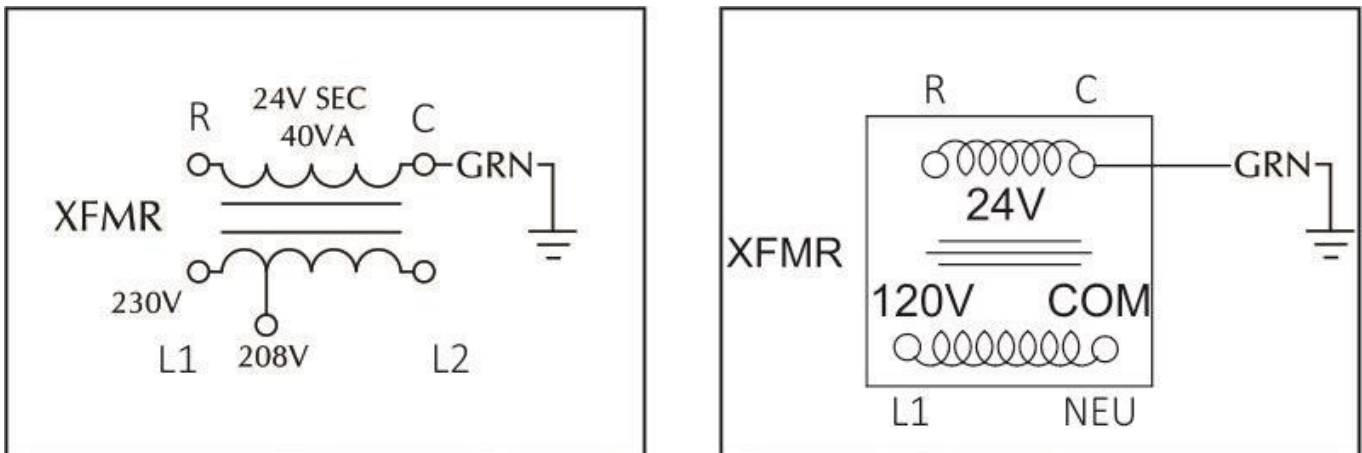

Figure 1 - Control Transformer Schematic
The low voltage power common and the data ground are electrically the same point. They are physically connected on the controls. In all of our equipment, we bond the secondary 24VAC common side of the control transformer to equipment ground. Since the 24VAC common is used for communication ground, it is important that the wiring on both indoor and outdoor control transformers are connected the same. Figure 1 shows images of the control transformers used in both an indoor air handling unit (AHU), an outdoor (OD) variable capacity unit and a residential gas furnace.
Outdoor line voltage input wiring is designated as L1 and L2. Indoor AHU line voltage input wiring is designated as L1 and L2. Indoor gas furnace line voltage input wiring is designated as L1 and NEUTRAL. The 24VAC (C) common wire should always be connected to the same side of the transformer that is bonded to equipment ground. Referencing figure 1, 24VAC (R) hot connection should be connected directly across to the left of the 24VAC “C” connection. Equipment input line voltage L1 should be connected directly below the 24 VAC “R” connection and line voltage L2 (OD and AHU) NEUTRAL (residential furnace) connection should be connected directly below the 24VAC “C” connection.
The outdoor variable capacity equipment control transformer comes factory wired as shown on the left side of figure 1. The matching air handling units developed for variable capacity outdoor equipment were based on existing AVC models. It was discovered that the line voltage wiring connected to the control voltage transformer was opposite of the outdoor section. Specifically, L1 and L2 were reversed – L2 was connected directly across from 24VAC “R.” To standardize for manufacturing, we changed all AHU L1 and L2 connections. L1 is now connected directly across from the 24VAC “R” connection just as the variable capacity outdoor sections.
As stated above and shown on the control transformers in figure 1, 24VAC “R” is located directly across from line voltage terminal we are designating as L1. Respectively, 24VAC “C” is located directly across from line voltage terminal we are designating as L2. When checking a control transformer supplied by 230-240 VAC and no other wiring problem is present, the designated L1 to 24 VAC “R” connection will always read approximately 96 volts AC and the designated L2 to 24 VAC “C” connection will always read approximately 144 volts AC regardless if you were to physically swap the L1 and L2 wires connected to the control transformer.